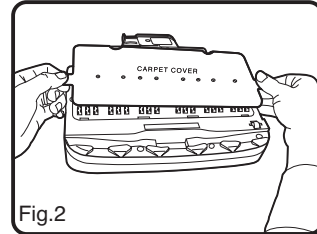
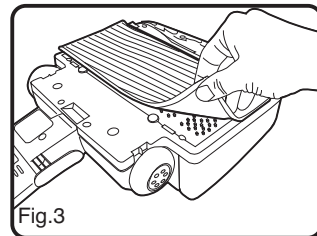

Fig.2
Fig.3
- Assemble the handle by pushing the two sections together – see image below (Fig.2).
- Insert the bottom of the handle into the location on the Steam Mop and rotate until the metal stopper is located in its hole (Fig.3).
- Unit is supplied with carpet glider in position. If using on hard floor, remove carpet glider (Fig.2) using tabs on each side, before attaching the fabric cloth (Fig.3).